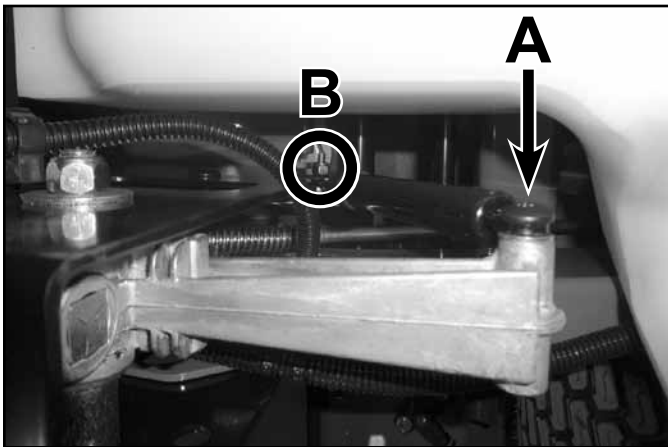

Fig. 019
3. Remove the (1) shoulder bolt (A) and washer that secures the upper motion control damper eyelet to the actuator arm.
4. Remove the nut and bolt (B) that secure the lower motion control damper eyelet to the control box (Fig. 019).